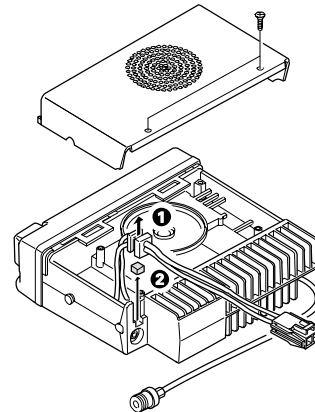

Fig. 8
3. Remove the upper case of the transceiver and lift the DC cable bushing (❶) from the chassis.
4. Remove the pad as shown in Figure 8 (❷).